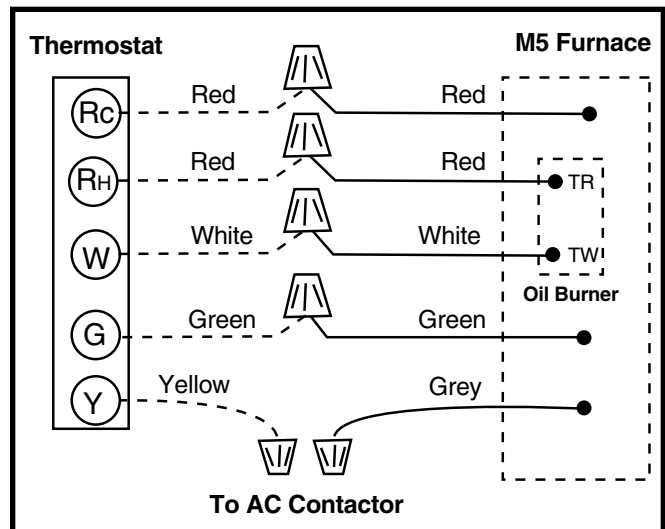

Figure 25. Thermostat Wiring
- **Proper line voltage polarity must be maintained in order for the control system to operate correctly. Verify the incoming neutral line is connected to the white wire and the incoming “hot” line is connected to the black wire. The furnace will not operate unless the polarity and ground are properly connected as shown in Figure 25 \(page 14\).**
2. Connect the thermostat wires to the furnace low voltage pigtails (dependent on the installation application). See Figure 25 \(page 14\). **NOTE:** To connect an M5 to a thermostat without an **RH & RC** connection, please refer to the wiring diagram and the installation instructions supplied in the kit [P/N 1018453]. Units installed with kit [P/N 1018453] will not use the **RH** connection from the furnace, **RC** on the furnace connects to the thermostat.